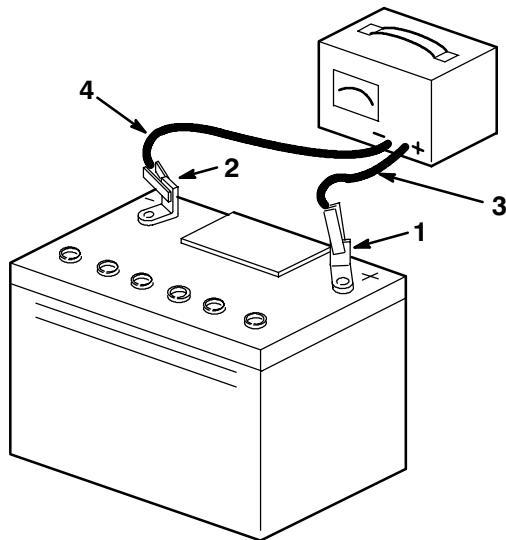

Figure 2
6. Charge the battery for 10 to 15 minutes at 25 to 30 amps or 30 minutes at 4-6 amps (Fig. 2). Do not overcharge the battery.
7. When the battery is fully charged, unplug the charger from the electrical outlet, then disconnect the charger leads from the battery posts (Fig. 2).